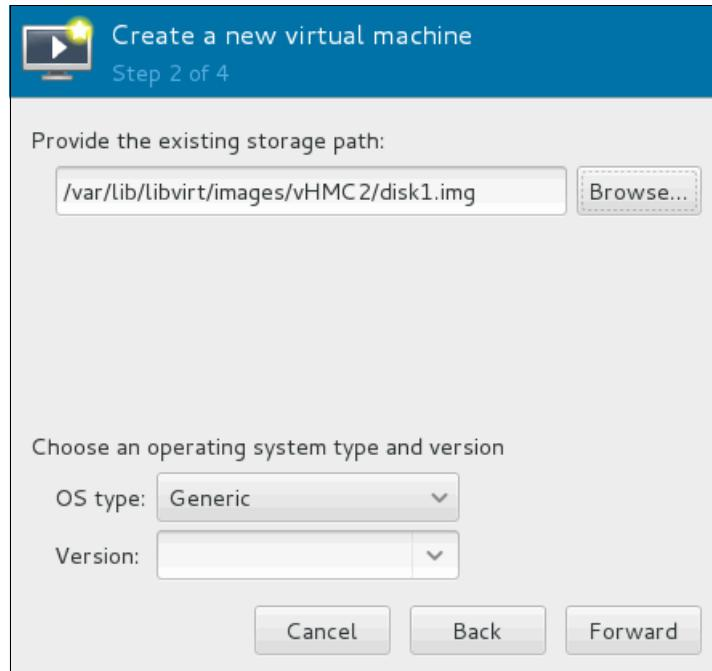

Figure 3-48 Choose the disk image
8. Click **Browse** to navigate in the KVM storage pools, select the appropriate image file that was previously uploaded, and click **Forward** (Figure 3-48).